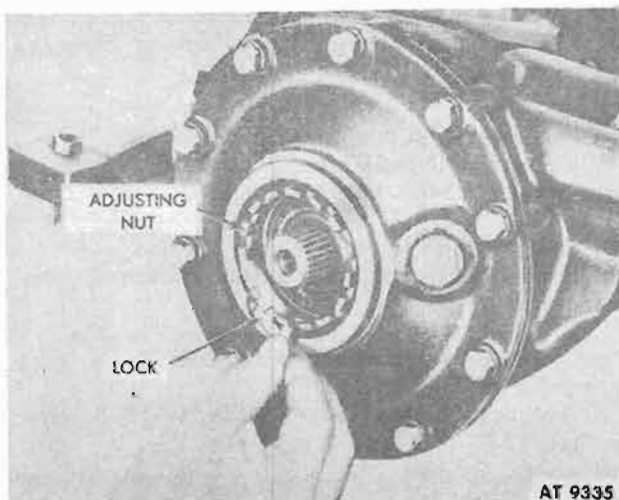

Figure 12-4. Differential Case Side Bearing Nut Lock.
e. Remove bearing adjusting nut locks (fig. 12-4).
Figure 12-4 is superseded as follows:
d. Install one bearing adjustment lock to each bearing adjustment nut. Refer to figure 12-4.